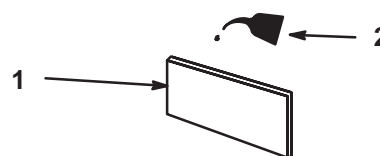

Figure 36
3. Soak element in new engine oil. (Fig. 36). Squeeze the element to remove excess oil.